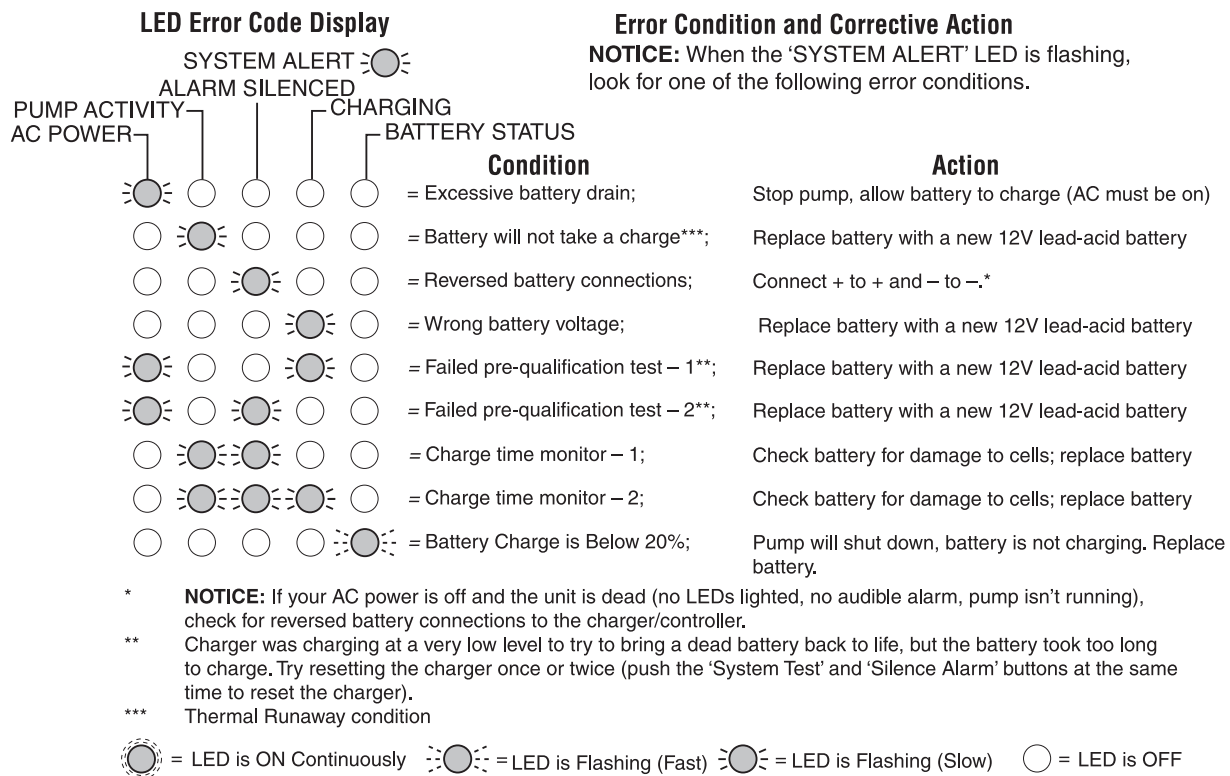

FIGURE 7: ERROR CODE DISPLAYS (LEDS FLASHING)
- ◆ When the System Alert light IS flashing, refer to Figure 7.